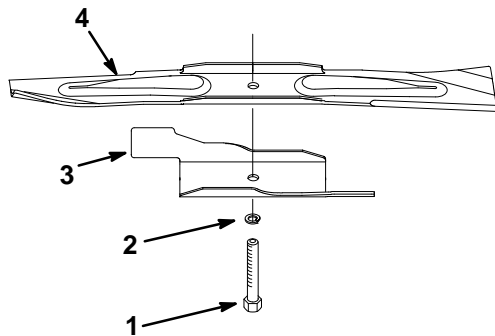

Figure 28
1. Install the blade, blade accelerator, lockwasher, and blade bolt (Fig. 28).